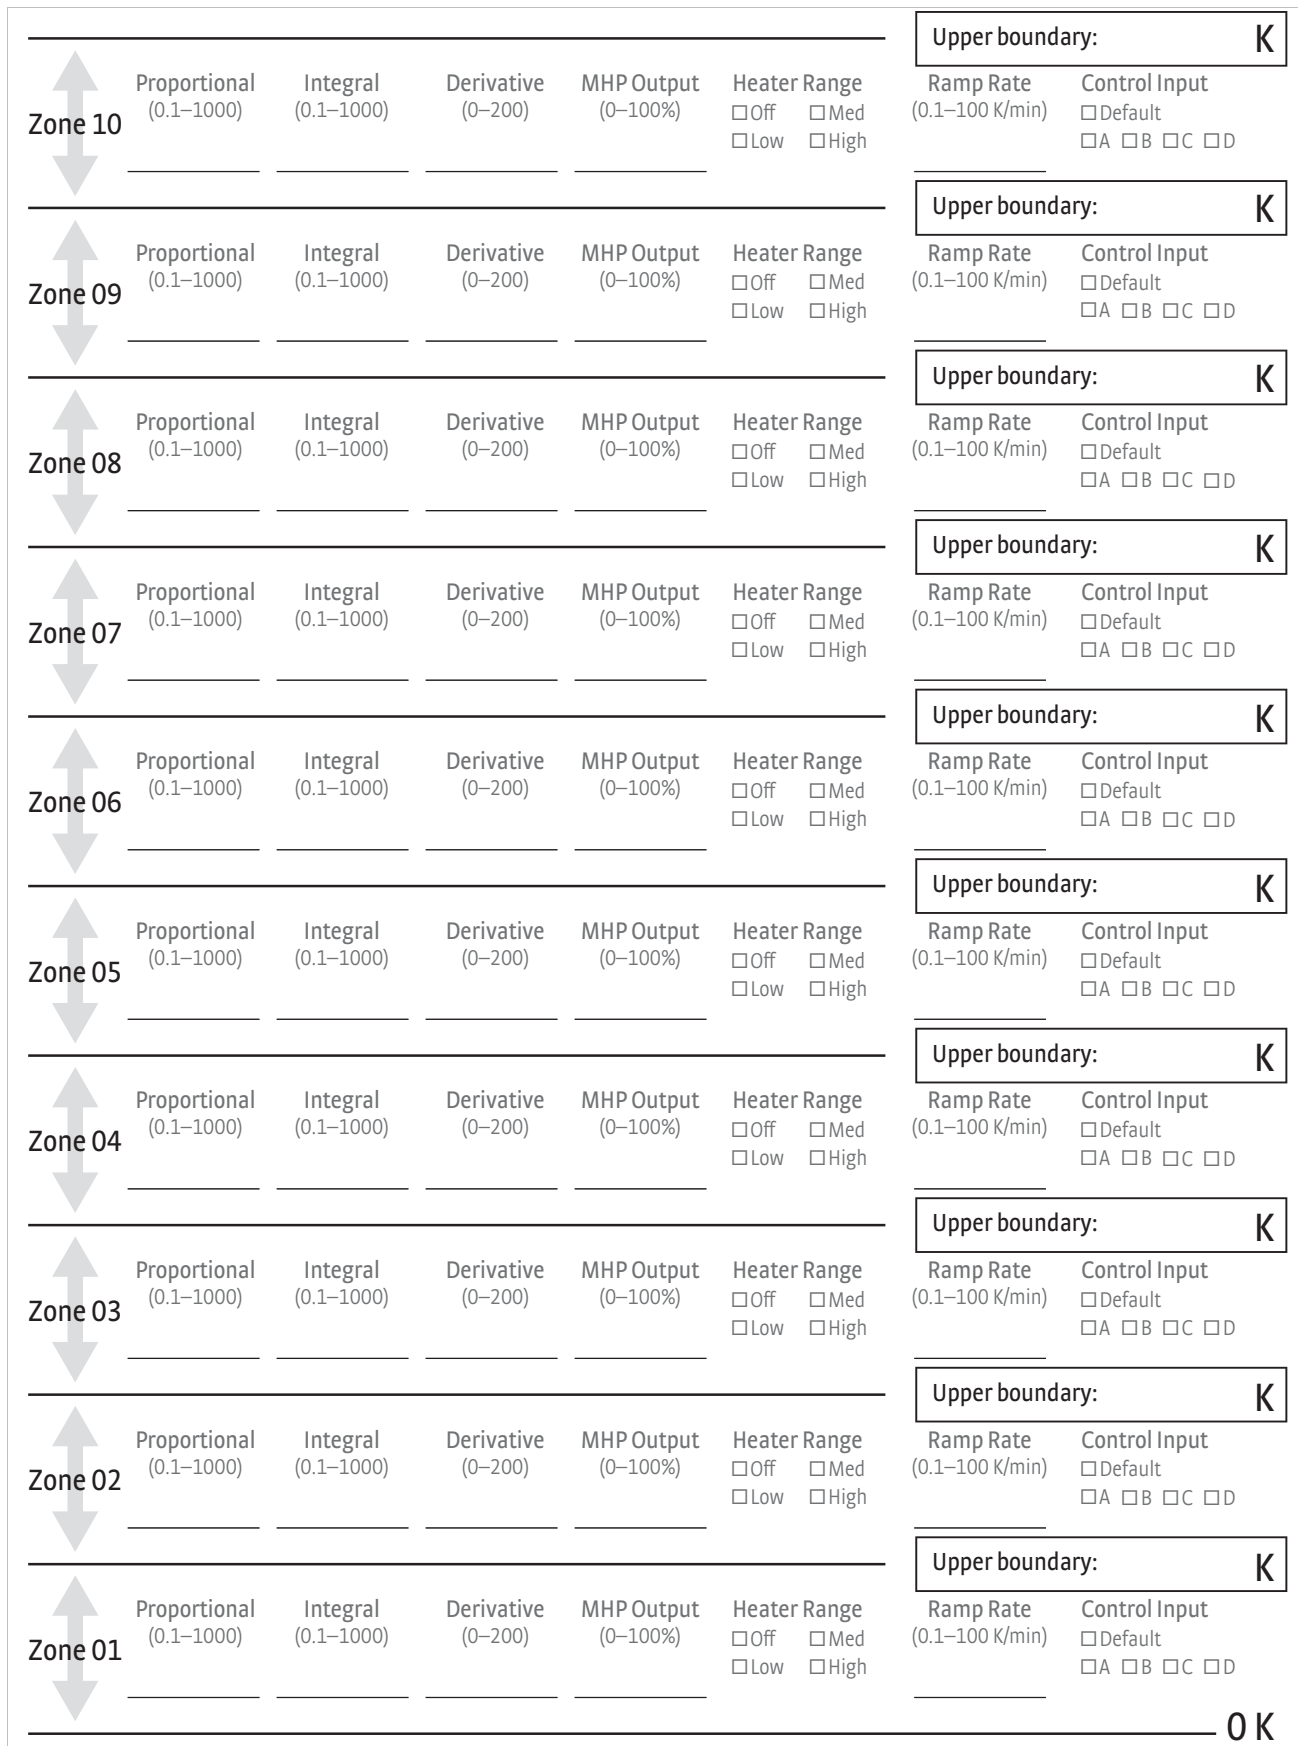

FIGURE 5-2 Record of zone settings
The Model 335 allows you to establish up to ten custom contiguous temperature zones where the controller will automatically use pre-programmed values for PID, heater range, manual output, ramp rate, and control input. Zone control can be active for both control loops at the same time. Configure the zones using 1 as the lowest to 10 as the highest zone. Zone boundaries are always specified in kelvin (K). The bottom of the first zone is always 0 K; therefore, only the upper limit is required for all subsequent zones. Make a copy of FIGURE 5-2 to plan your zones.